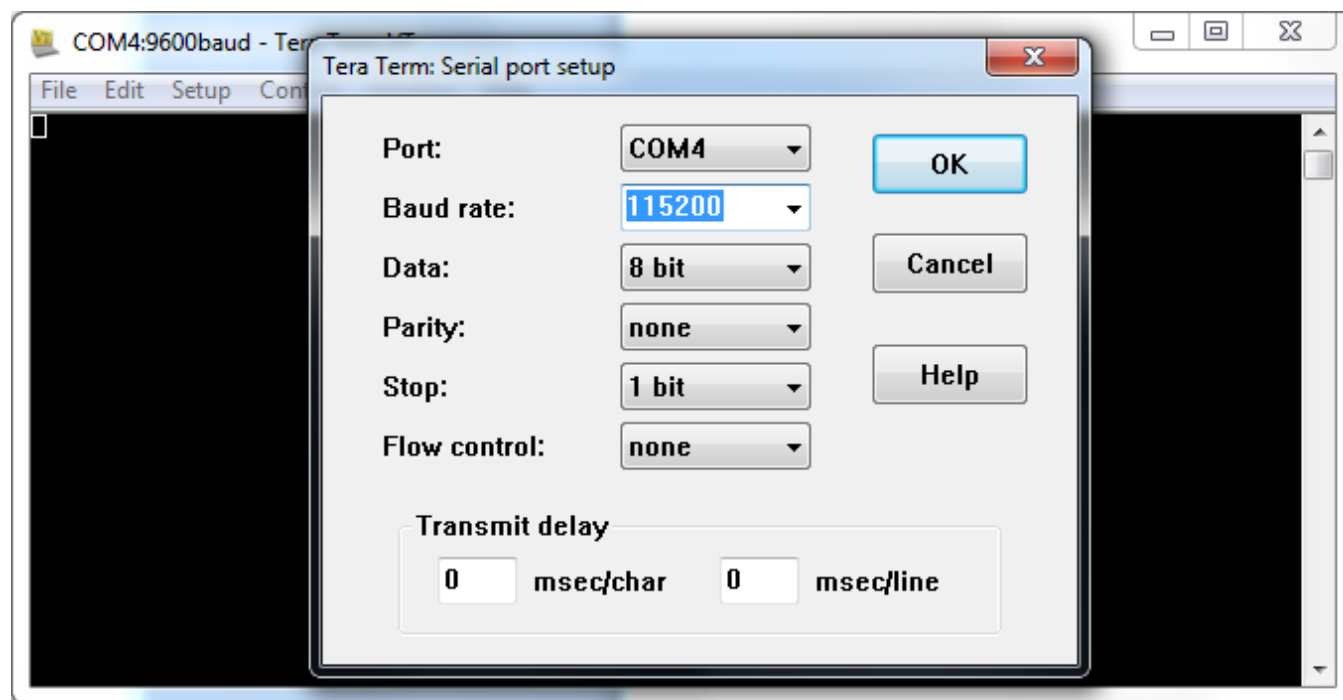

Figure 23. Tera Term Serial Port Setup
8. In the menu, select Setup>Serial Port, and change the baud rate to 115200 as shown in Figure 23.